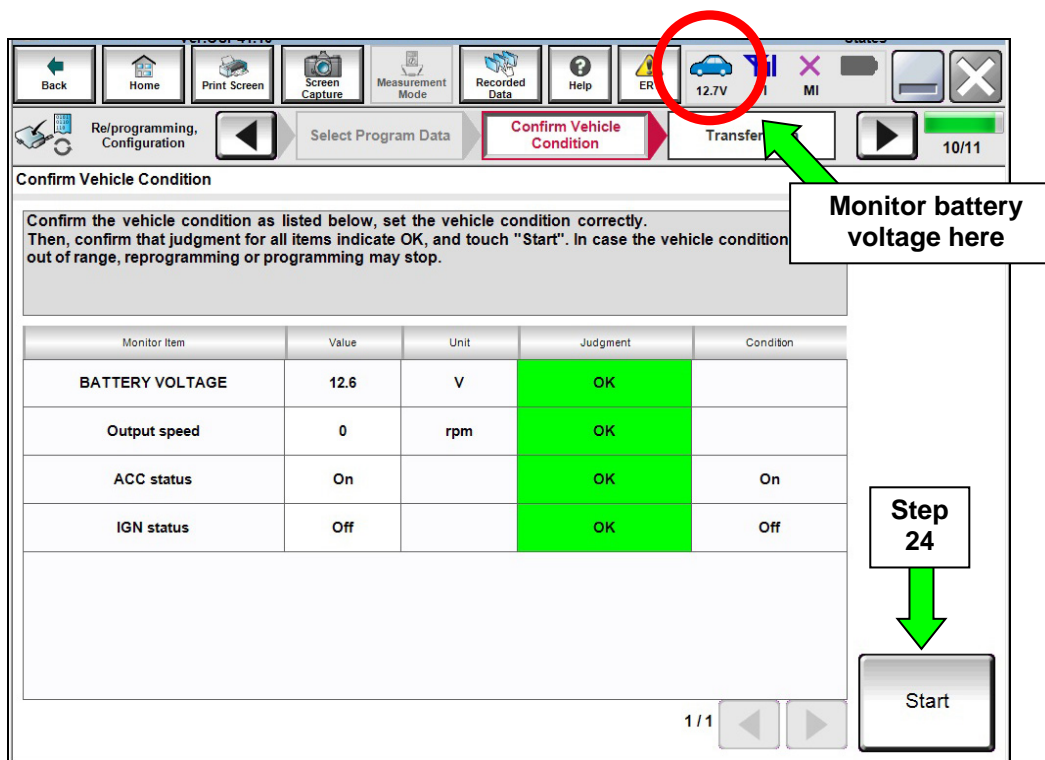

Figure 15A
- Make sure the IGN status judgement changes to **OK**. See Figure 15A.